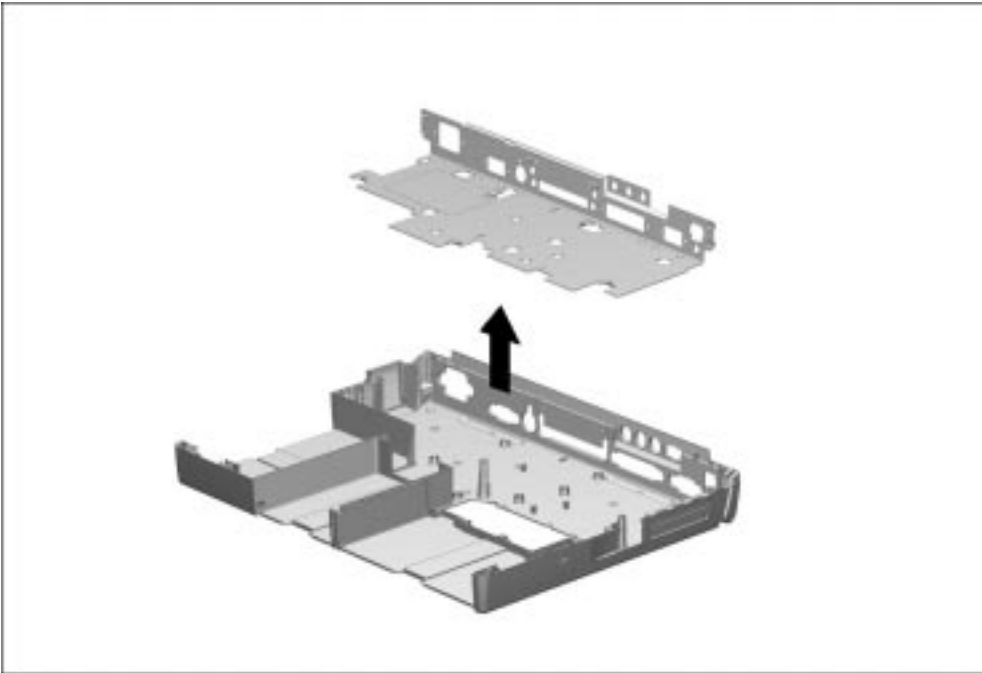

Figure 5-81. Removing the I/O Bracket
15. Lift the back edge of the I/O bracket. When the bracket clears the computer base assembly, lift it out of the base assembly (Figure 5-81).